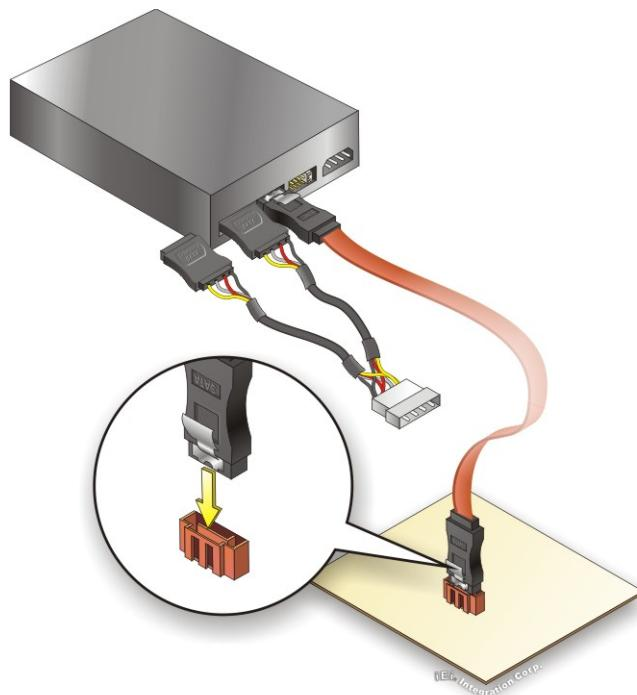

Figure 4-20: SATA Power Drive Connection
- Step 3: Connect the cable to the SATA disk.** Connect the connector on the other end of the cable to the connector at the back of the SATA drive. See **Figure 4-20**.
- Step 4: Connect the SATA power cable.** Connect the SATA power connector to the back of the SATA drive. See **Figure 4-20**.